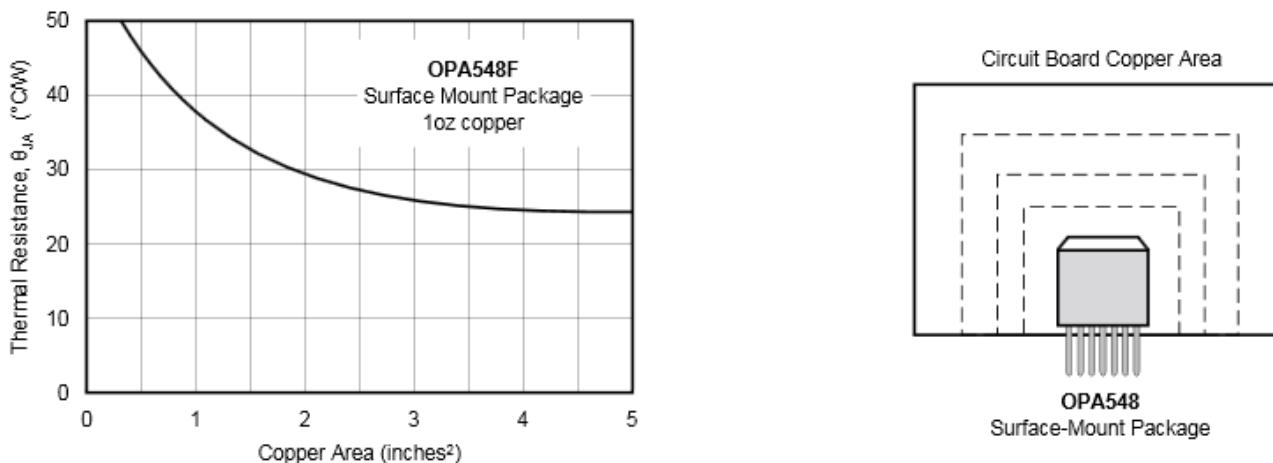

Figure 43. DDPACK Thermal Resistance vs Circuit Board Copper Area
For best thermal performance, the tab of the DDPAK surface-mount version should be soldered directly to a circuit board copper area. Increasing the copper area improves heat dissipation. See Figure 43 for typical thermal resistance from junction-to-ambient as a function of the copper area.
- (1) For improved thermal performance, increase footprint area. See Figure 43.
- (2) Mean dimensions in inches. Refer to the mechanical drawings or www.ti.com for tolerances and detailed package drawings.